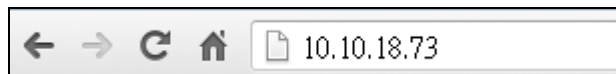

Figure 4-19: IEI iMAN Web Address
Step 2: On the remote management console, open a web browser. Enter the managed system IP address in the web browser (**Figure 4-19**).